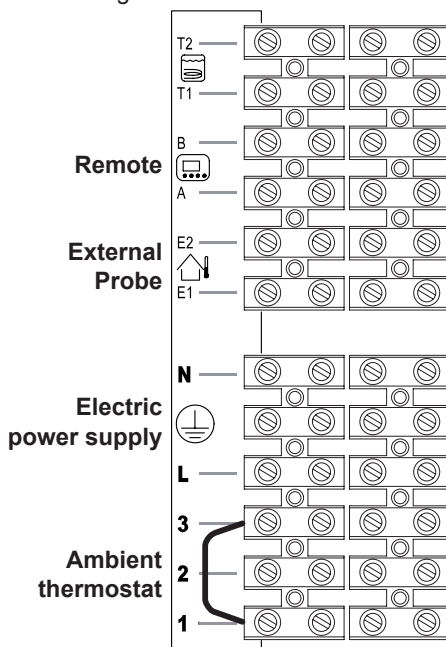
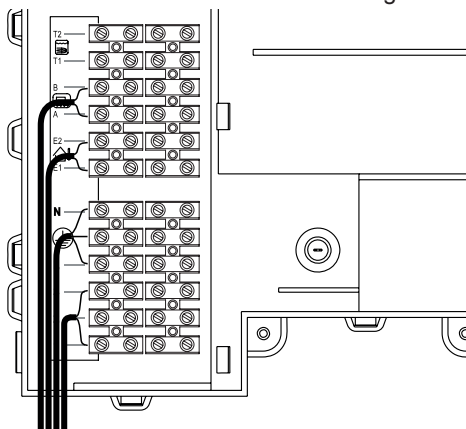
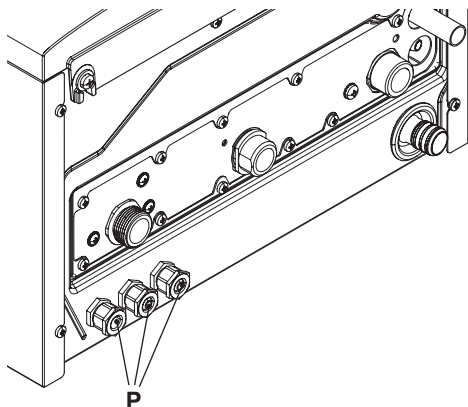

Fig. 6.16
Fig. 6.17
Fig. 6.18
- Connect the electric power supply cable coming from the fused spur isolation switch to the power supply terminal block of the boiler Fig. 6.16 keeping the same connections for the live (brown wire) and the neutral (blue wire). External 3A fuse or fused plug with same current rating is recommended.
The route of the boiler and ambient thermostat's electric power supply cable or wires must follow the route indicated in Fig. 6.17.
Allow the cables to exit the boiler by using the relevant cable clamps "P" (Fig. 6.18).
Use the clamps indicated in Fig. 6.16 to connect the ambient thermostat.
Use the ambient thermostat's clamps indicated in Fig. 6.16 and Fig. 6.17 to connect the zone valve. Insert the electric cables of the zone valve's micro switch contacts in clamps "1 and 3" of the ambient thermostat's terminal block as in Fig. 6.17.
The route of the boiler and ambient thermostat's electric power supply cable or wires must follow the route indicated in Fig. 6.17. Allow the cables to exit the boiler by using the relevant cable clamps "P" (Fig. 6.18).
The route of the external probe's connection wires must follow the route indicated in Fig. 6.17.
The route of the remote control cable must follow the route indicated in Fig. 6.17.